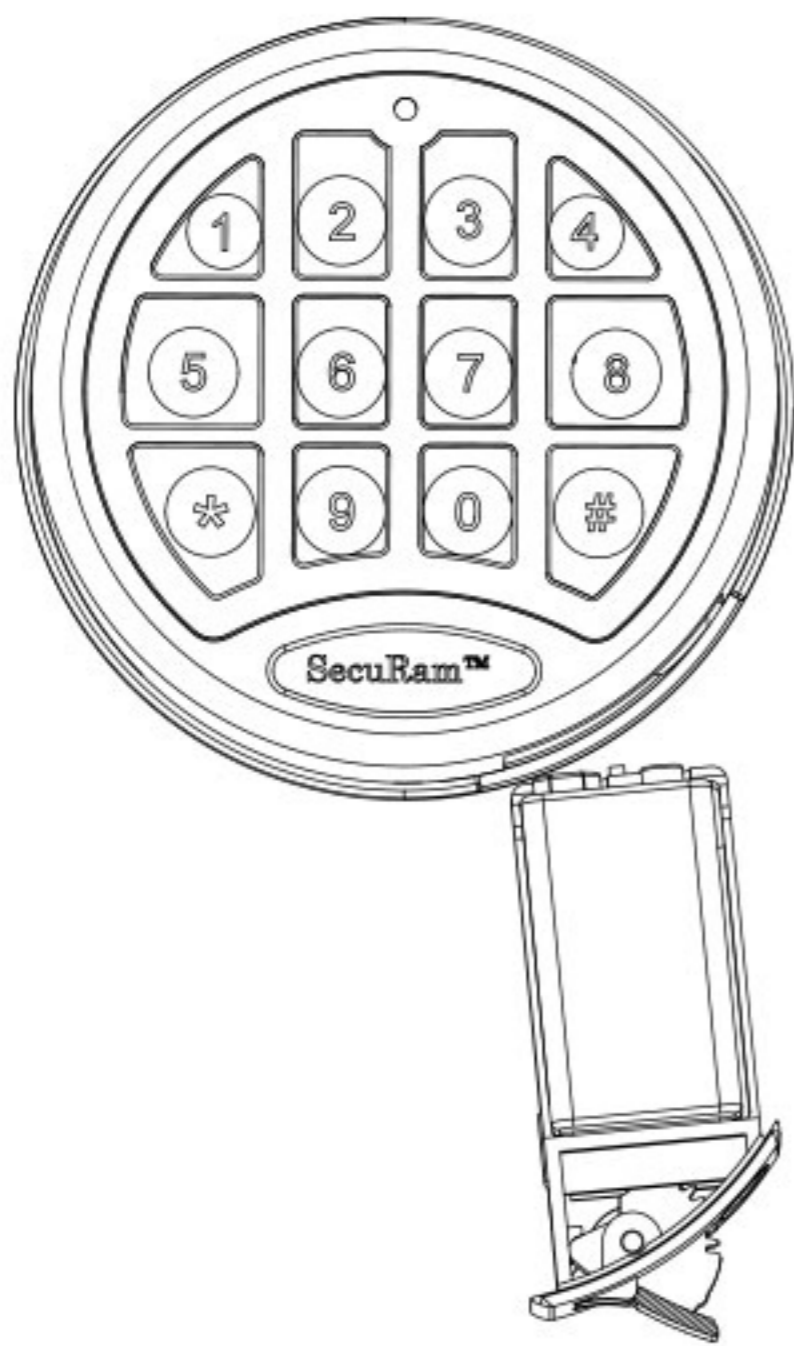

Fig. 6
- Install battery: Make sure connect the battery correctly about the positive and negative poles. Slide the battery compartment into the bottom of entrypad, as shown. Push it up until it is in line with or level with the cover. Pull up the latch of the battery compartment until it is tight and secure too. (Fig. 6&7)